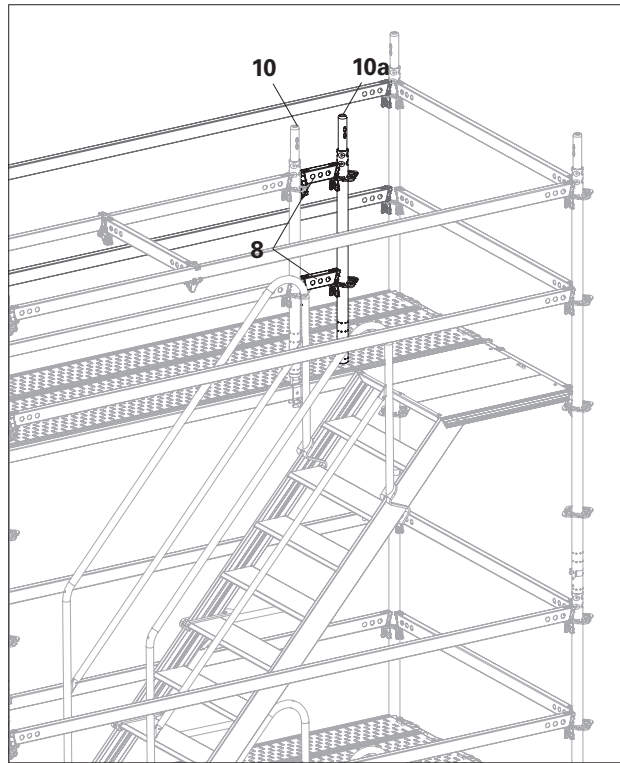

Fig. A5.05
6. Hook the assembly (**8 + 10a**) with the horizontal ledgers (**8**) into the standard (**10**). Secure the wedges. (Fig. A5.05)